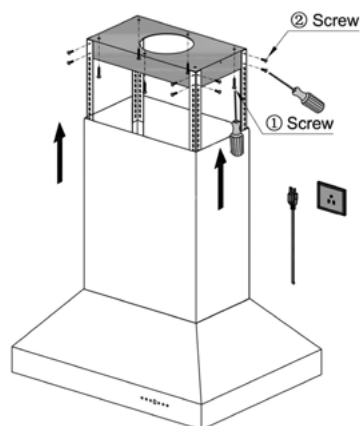

Figure 4
6. Slide chimney pieces over the angle iron on the hood. Pull the electrical plug to the top of the chimney sections. *Figure 4*